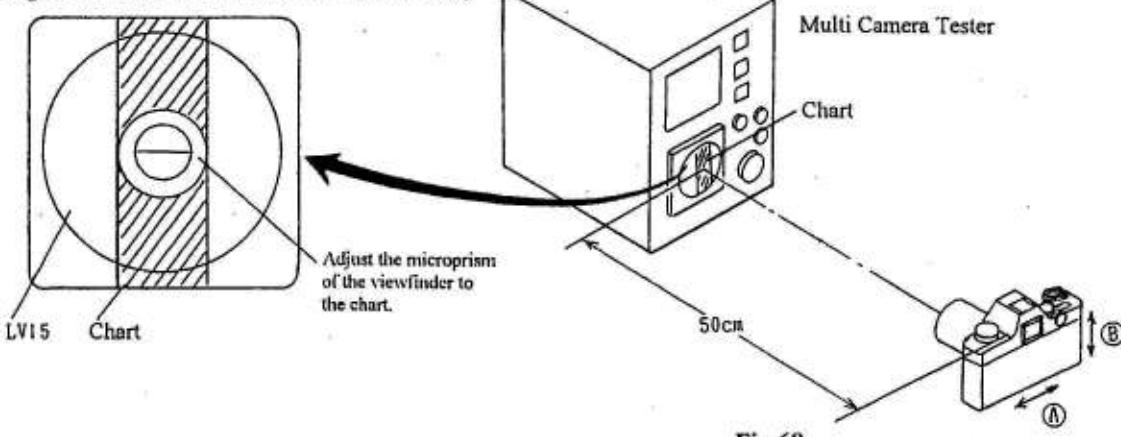

Fig.69
- 11) Look into the viewfinder and swing the camera gently right and left (in the direction of the arrow Ⓐ). (See Fig. 69) Adjust by turning the Adjusting Pin Ⓛ so that the shutter speed indicator shows the slowest speed at swinging.
- 16) Look into the viewfinder and swing the camera gently up and down (in the direction of the arrow Ⓜ). (See Fig. 69) Adjust by turning the Adjusting Pin Ⓝ so that the shutter speed indicator shows the slowest speed at swinging.